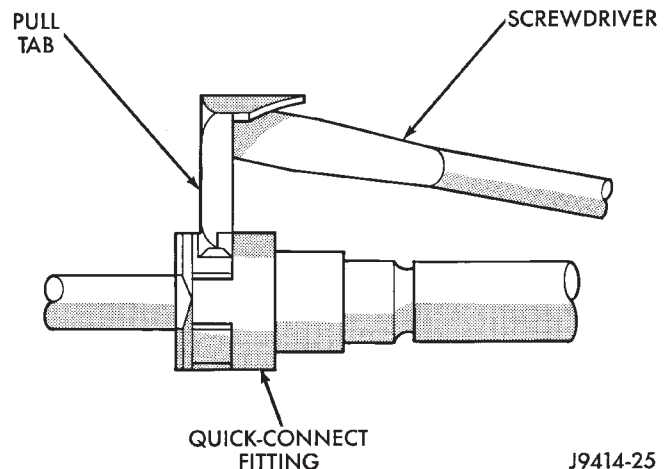

Fig. 16 Disconnecting Single-Tab Type Fitting
- (1) Perform fuel pressure release procedure. Refer to Fuel Pressure Release Procedure in this group.
- (2) Disconnect negative battery cable from battery.
- (3) Clean fitting of any foreign material before disassembly.
- (4) Press release tab on side of fitting to release pull tab (Fig. 16).
- (5) While pressing release tab on side of fitting, use a screwdriver to pry up pull tab (Fig. 16).